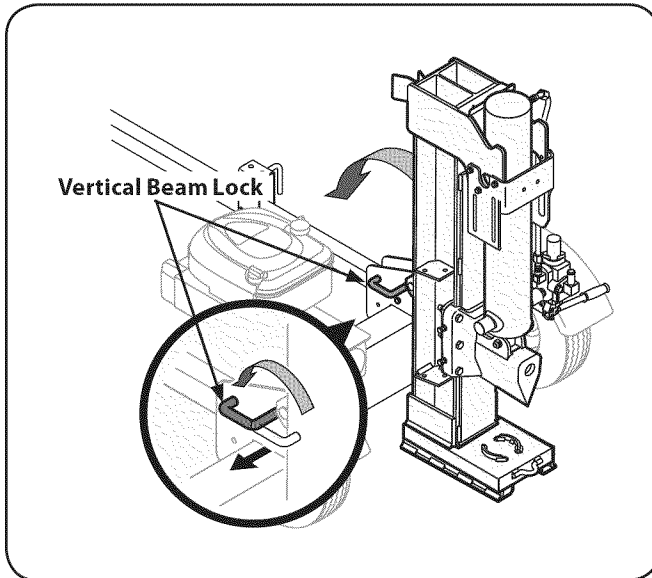

Figure 3-3
1. Pull out the vertical beam lock, rotate it back and pivot the beam to the horizontal position until it locks. See Fig. 3-3.